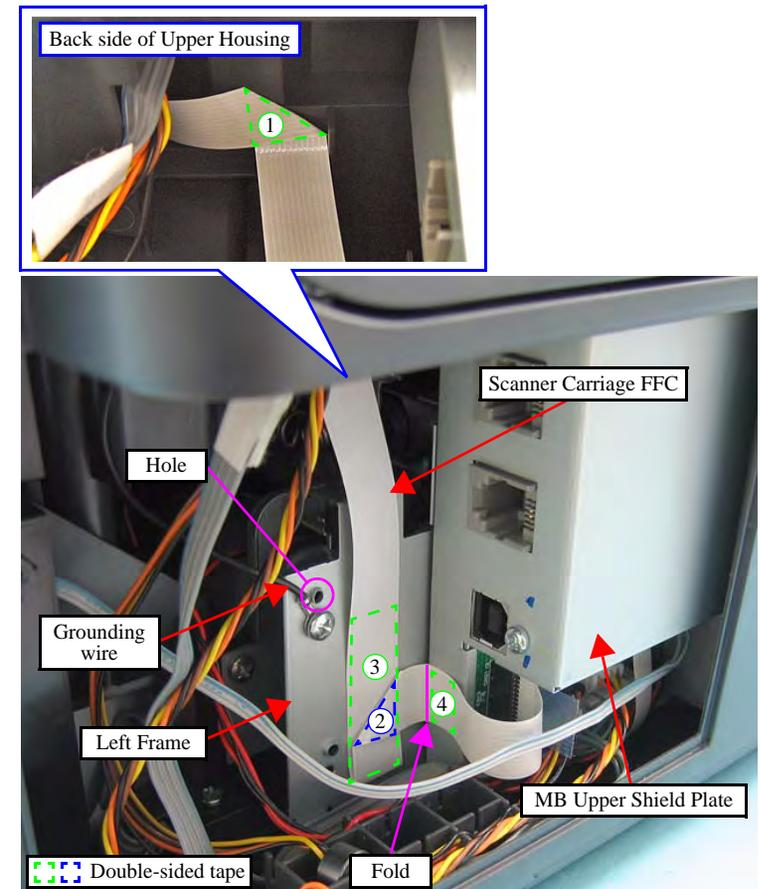

Figure 4-8. Routing the cables and FFC
■ When installing the grounding wire, make sure to route it not to cover the hole of the Left Frame as shown in Figure 4-8.
■ When routing the Scanner Carriage FFC, follow the steps below while referring to the Figure 4-8.
1. Secure the FFC on the back side of the Upper Housing with the double-sided tape (1).
2. Fold and secure the FFC with the double-sided tape (2) as shown in the figure, and route it vertically on the Left Frame, then secure it with the double-sided tape (3).
3. Align the fold of the FFC to the left edge of the MB Upper Shield Plate, and secure the FFC with the double-sided tape (4).